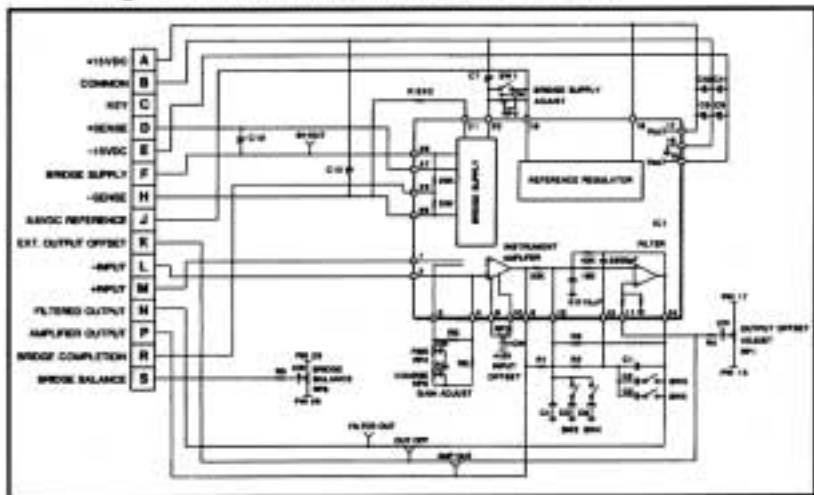

Figure 1-2. Schematic
The OM2-160 can be used as the heart of a very effective digital scale system as shown below. The OM2-160 is interfaced to a standard 3 mV/V full bridge transducer. With the bridge excitation set to 10 Volts a gain of 333 V/V is required to get a 10 Volt full scale output. The output offset pin (K) is used here to interface to a front panel pot by the display, this pot allows a tare or dead weight adjustment to be made by the operator as a required to set the system offset to zero reading for zero weight on the scale (resistor R4 should be removed from the OM2-160 to disable any interaction of the internal output offset adjustment). The system is calibrated by applying zero weight with the output offset pin and inputs connected to ground and adjusting the input offsets to get a zero reading, then remove the inputs from ground and apply a full scale load to the scale (or simulate one with a mV calibrator) and procedure may have to be repeated several times to get the desired accuracy of gain and offset. Figure 1-2 is shown on the next page.
Figure 1-2 shows the schematic of the OM2-160,